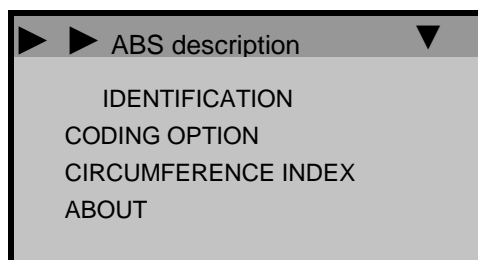

Fig. 7.60.
1. The “ABS description” subsection menu is shown in Fig. 7.60.